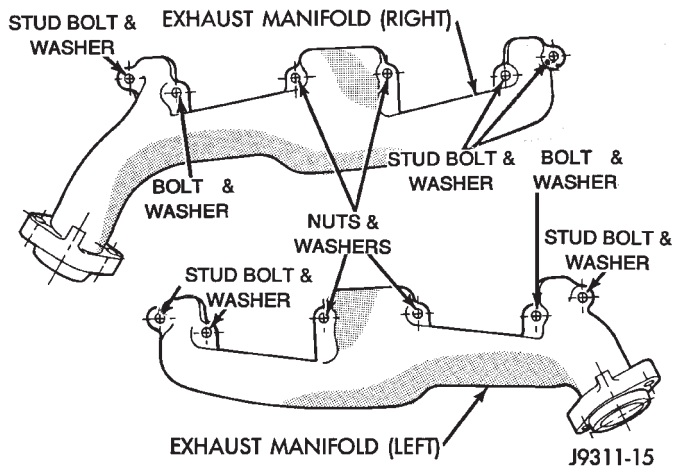

Fig. 16 Exhaust Manifold
(1) Position the exhaust manifolds on the two studs located on the cylinder head. Install conical washers and nuts on these studs (Fig. 16).
(2) Install new bolt and washer assemblies in the remaining holes (Fig. 16). Start at the center arm and work outward. Tighten the bolts and nuts to 27 N·m (20 ft. lbs.) torque.